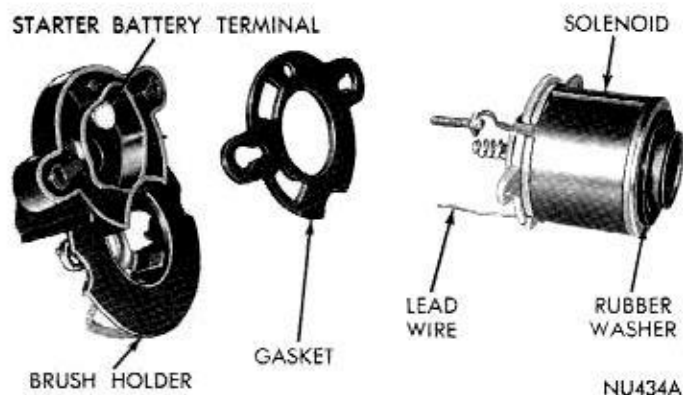

Fig. 18—Assembling Solenoid to Brush Holder Plate
(11) Position seal on brush holder plate.
(12) Enter solenoid lead wire through hole in brush holder (Fig. 18) and install solenoid stud, insulating washer, flat washer and nut.
(13) Wrap solenoid lead wire tightly around brush